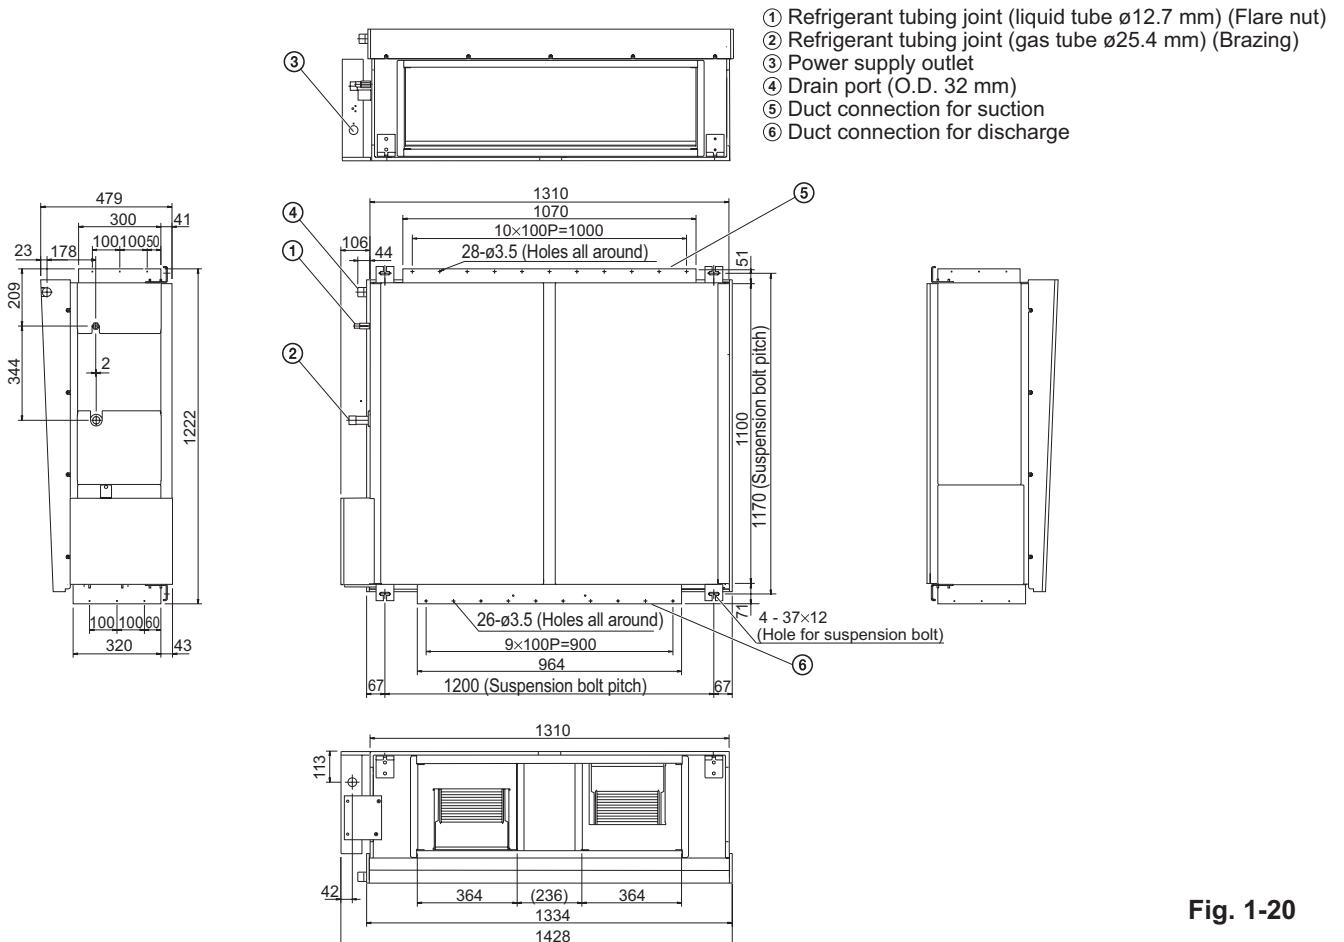

Fig. 1-20
- Fig. 1-20 shows the detailed dimensions of the indoor unit.